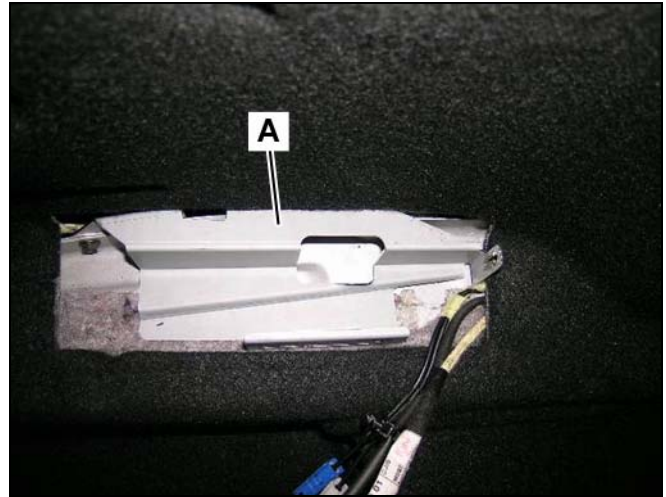

Figure 16
7. Push back the insulation material (Figure 16) in front of Part A of the SDARS bracket (A, Figure 16).